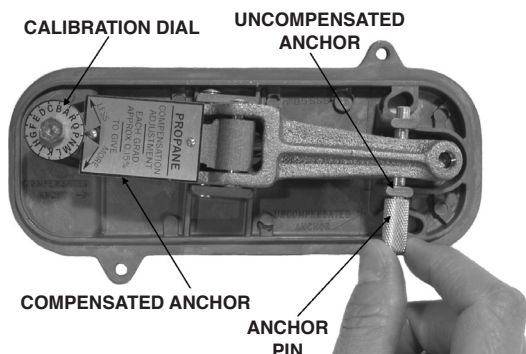

**FIGURE 8
1. The 600 Series Register Change Gears are located inside the register, directly beneath an access plate on top of the register. (See Figure 8.) Remove the two screws on the plate, the cover plate, and replace gears as above. Spread the ends of both spindles and replace the access plate.